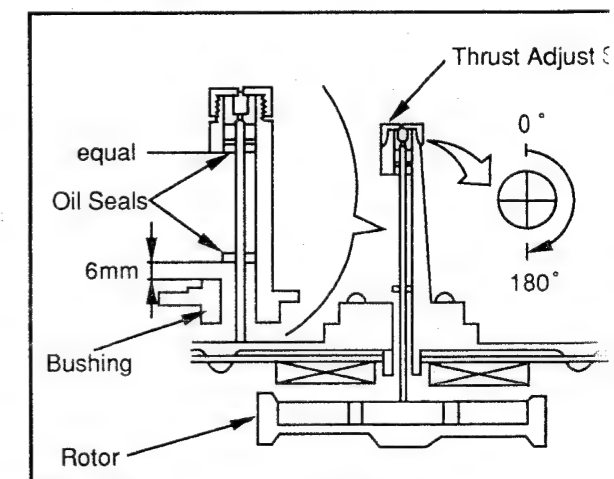

Fig. M21
12. Upon completion of the above procedure, confirm that the Oil Seals are positioned as shown in Fig. M21 and ensure that the oil seal does not contact the Pressure Roller or P5 Arm Unit. Then, wipe off the Capstan Shaft to remove oil, grease, and dust.
1. During production, the Lower Oil Seal is positioned 6mm above the bushing as shown in Fig. M21. During servicing, the seal should be either 6mm or just above the bushing.